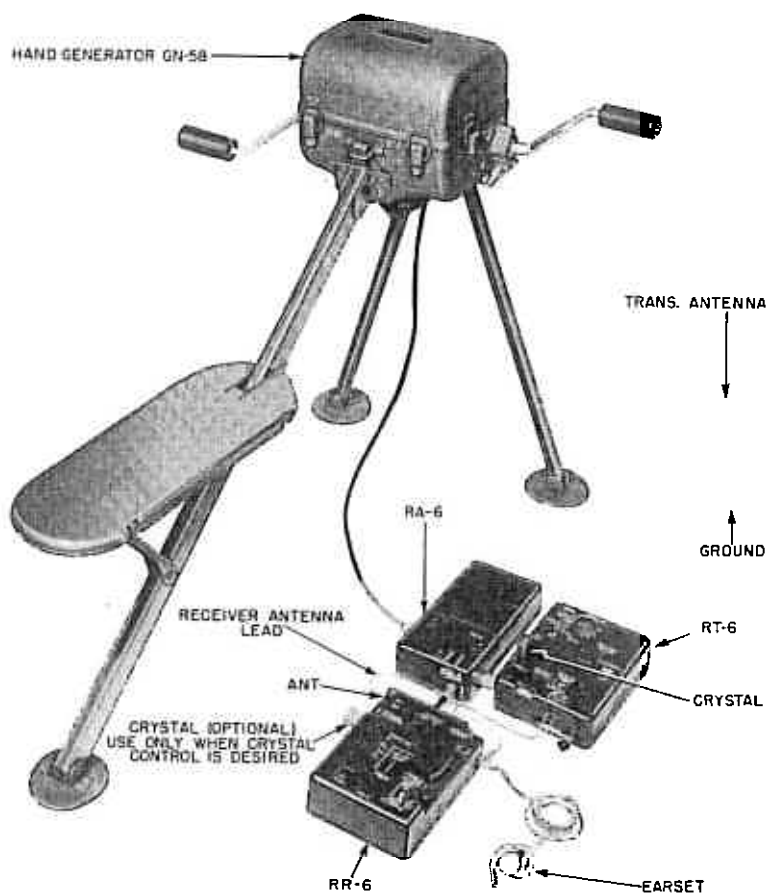

Figure 7. Radio Station RS-6, hand generator operation hook-up.
b. Connect the equipment as shown in Figure 7. (Receiver crystal shown is optional.) Hand Generator GN-58 should be used.